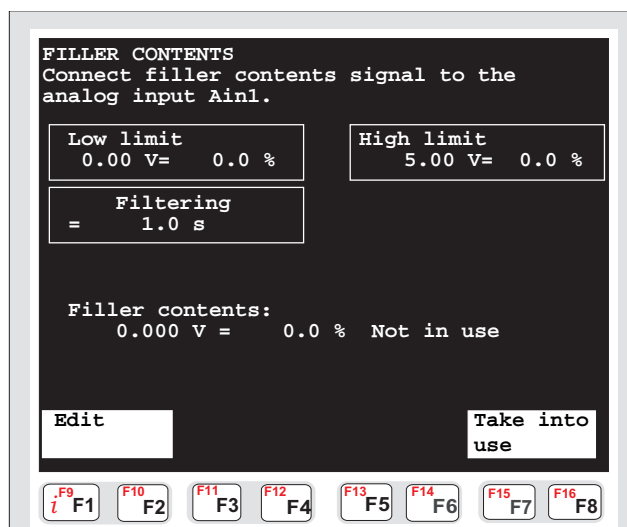

Fig. 9.13. "Filler contents" display.
1. Go from MAIN MENU => SELFDIAGNOSTICS => SPECIAL FUNCTIONS => FILLER CONTENTS: ANALOG INPUT (Fig. 9.13).